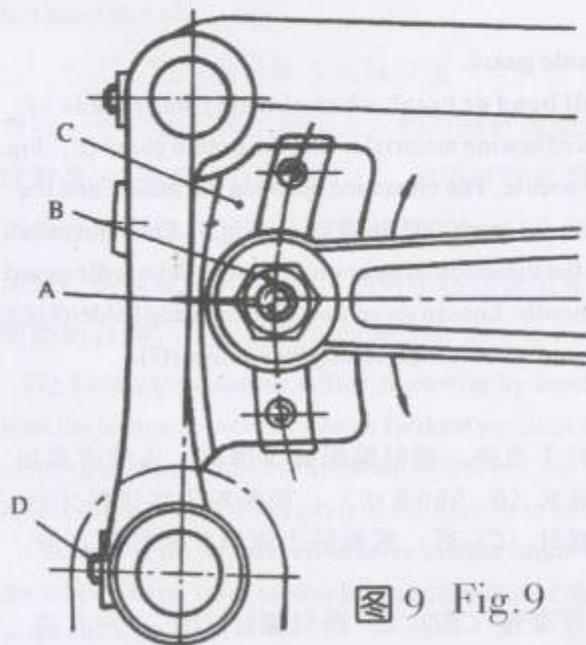

图9 Fig.9
送料牙在针板牙槽内的两侧面间隙不对称时，拧板牙架座(图9, C)两只螺钉(D)，左右移动牙架座至要求位置后再拧紧螺钉(D)。
If feed dog are not in the center in the throat plate slots, Loosen screws rear in the feed locker (C, Fig. 9), move the feed locker right or left as required. Then retighten screws(D).
针距长短的调节, 是通过牙架座(图9, C)扇形槽中的针距调节螺钉(A)的上下移动来实现的。下降螺钉(A)使针距加大, 升高则缩短针距。调节时拧松螺母(B)、上下移动螺钉(A)至需要的针距后再固紧螺母(B)。(自动型式的机器需卸下罩壳时再调节)
The length of the stitch can be adjusted by raising or lowering the stud(A) in the segment slot of the feed locker (C, Fig. 9). Lowering the stud will shorten the stitch. After loosening nut(B), Stud(A) can be moved accordingly. When the desired stitch length is obtained, Retighten nut(B). (For automatic style machines the cloth plate should be removed to adjust)